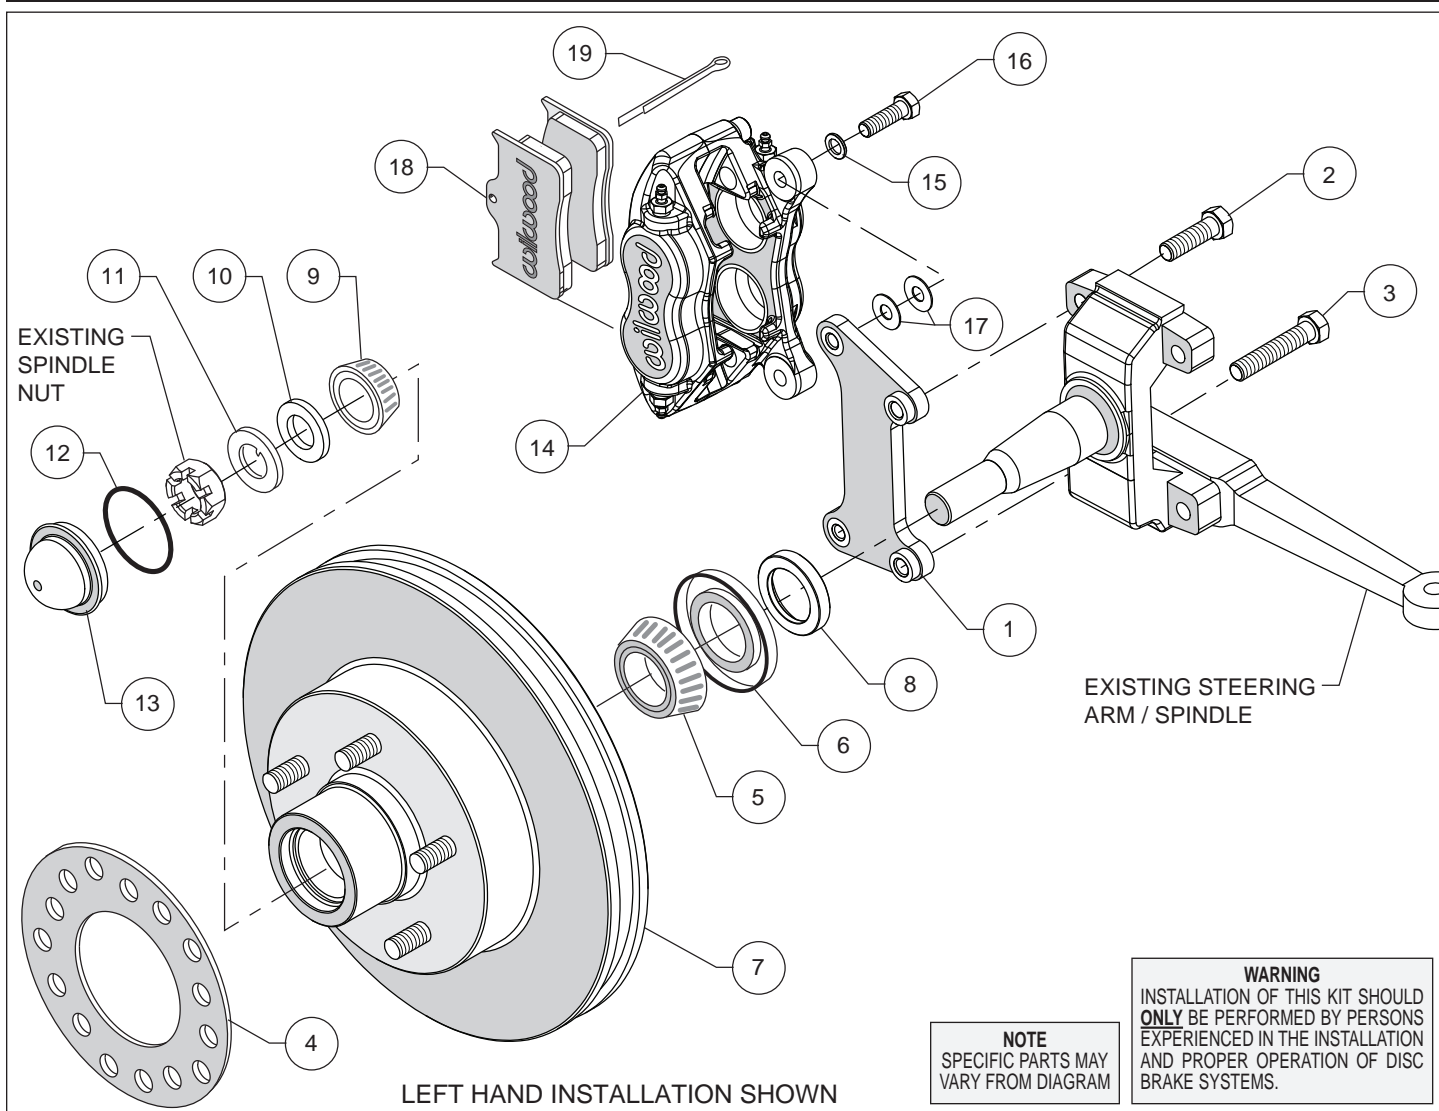
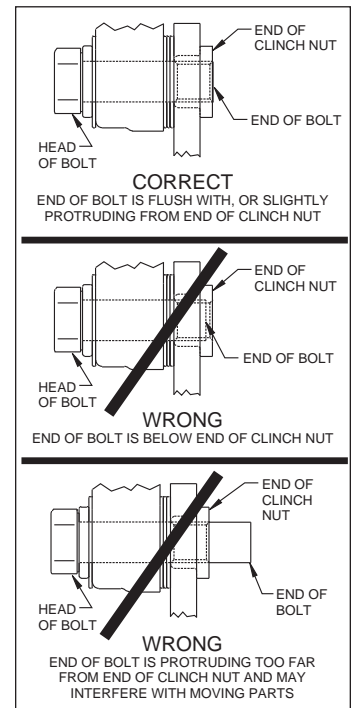

Figure 1. Typical Installation Configuration
Figure 3. Clinch Nut Engagement Diagram
Assembly Instructions (numbers in parenthesis refer to the parts list, on the preceding page and Figure 1): **CAUTION:** All mounting bolts must fully engage clinch nuts. Be sure to check that all bolts are either flush or protruding through flanged side of clinch nut after shimming, Figure 3.
- Orient the caliper mount bracket (1) as shown in Figure 1 and Photo 1, and install using bolts (2/3). Ensure that the flanged heads of the clinch nuts in the bracket are facing outboard, Photo 1. Temporarily tighten the mounting bolts. **NOTE:** The bracket must fit squarely against the mount bosses on the upright. Inspect for interference from casting irregularities, machining ridges, burrs, etc. Remove bolts one at a time, apply red *Loctite*® 271 to the threads and torque to 60 ft-lb.
- Pack the small outer bearing cone (9) with high temperature disc brake bearing grease and install into hub (7). Slide the hub/rotor onto the spindle. Slide spindle spacer (10) onto the spindle and into the hub, Photo 4. Secure using spindle washer (11) and OEM spindle nut. Adjust bearings by tightening the wheel bearing nut to 60 **in-lbs.** while turning the hub/rotor assembly. Back off the adjusting nut one slot and install a new cotter pin (not supplied). **The resulting adjustment should be zero (no pre-load to 0.003 inch end play).**
- Install the o-ring (12) onto the dust cap (13). Press the dust cap into the hub (7).
- NOTE:** Please reference the caution statement at the beginning of the assembly instructions. Mount the caliper (14) onto the caliper mounting bracket (1) using bolts (16) and washers (15), as shown in Figure 1. Initially place two .035" thick shims (17) on each bolt between the caliper and the bracket, Photo 5. Temporarily tighten the mounting bolts and view the rotor (7) through the top opening of the caliper. The rotor should be centered in the caliper, Photo 6. If not, adjust by adding or subtracting shims between the bracket and the caliper. Always use the same amount of shims on each of the two mounting bolts. **NOTE:** The end of each bolt must be flush with or slightly protruding from the head of the clinch nut, as shown in Figure 3. If necessary place spare shims between washer (15) and caliper mounting ear to achieve the proper clinch nut engagement. Once the caliper alignment and clinch nut engagement are correct, remove the bolts one at a time, apply red *Loctite*® 271 to bolt threads, and torque to 40 ft-lb.